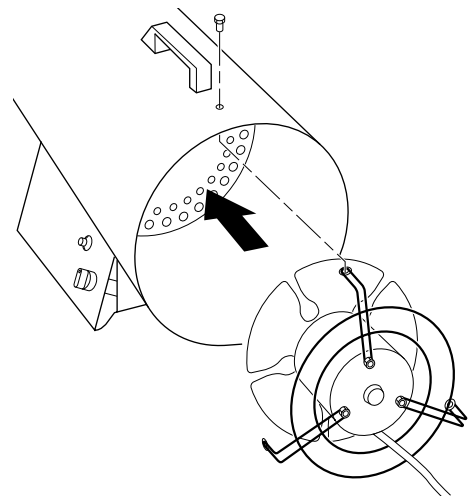

Figure 10 - Replacing Motor and Fan Guard into Heater
9. Place motor and fan guard into rear of heater shell. Make sure power cord is properly located (see Figure 10).